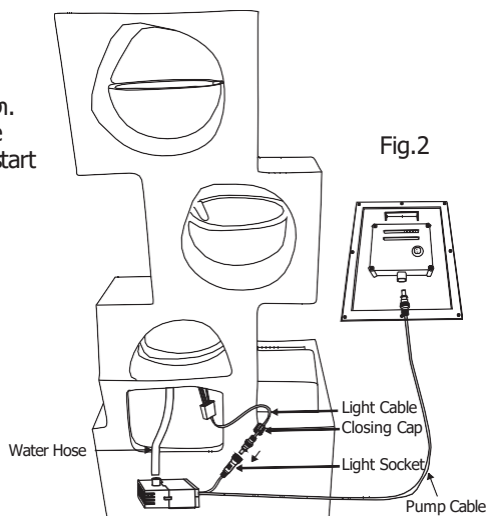

Fig.2
3. Connect the light cable to the light socket of pump (Fig. 2).